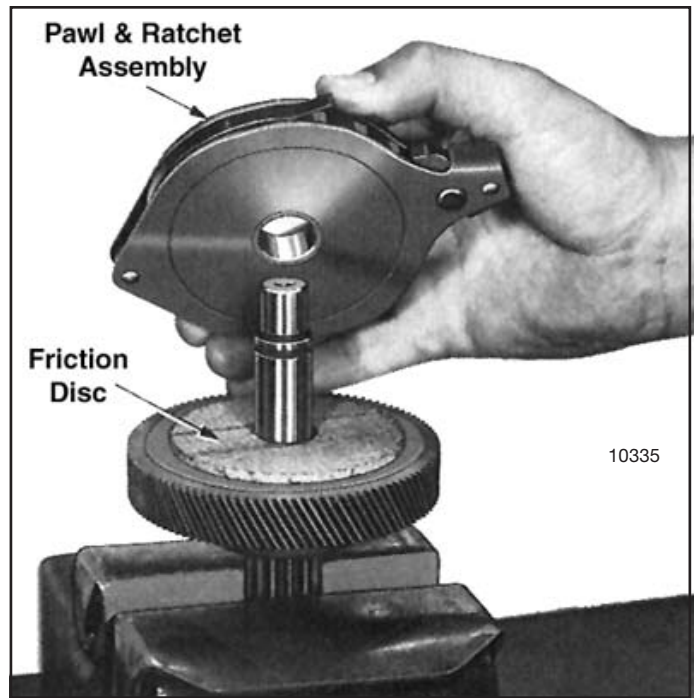
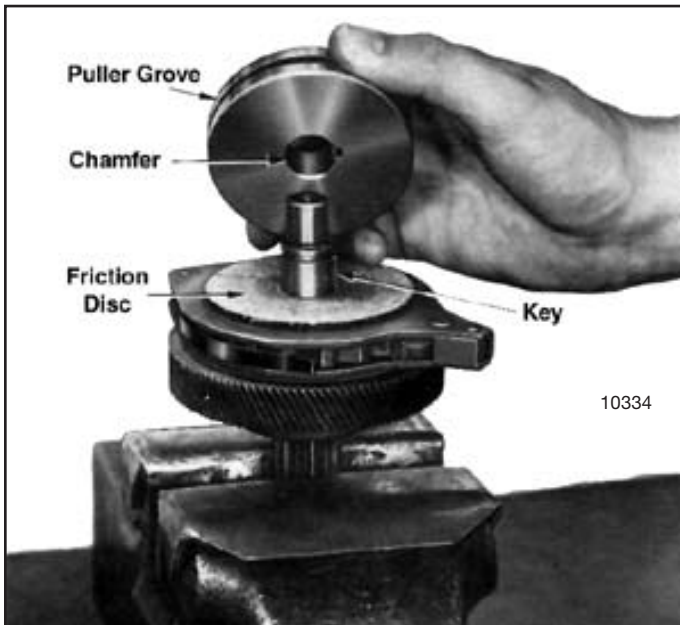

Figure 7-23. Removing Pawl and Ratchet Assembly from Load Brake Shaft
Figure 7-22. View Showing Load Brake Flange Removed
(2) Using a puller tool, remove brake flange from shaft. A groove is provided around outer diameter for this purpose. See figure 7-22. Remove key from shaft and lift off 2 friction discs, and the pawl and ratchet assembly (fig. 7-23).
(4) When installing pawl and ratchet assembly on load brake shaft, be certain that teeth on ratchet face are in the same direction as shown in fig. 7-23. The ratchet assembly should rotate freely when turned counterclockwise and the pawl should engage ratchet teeth when unit is turned clockwise.
(5) When installing brake flange position it with chamfer facing friction disc, figure 7-22.